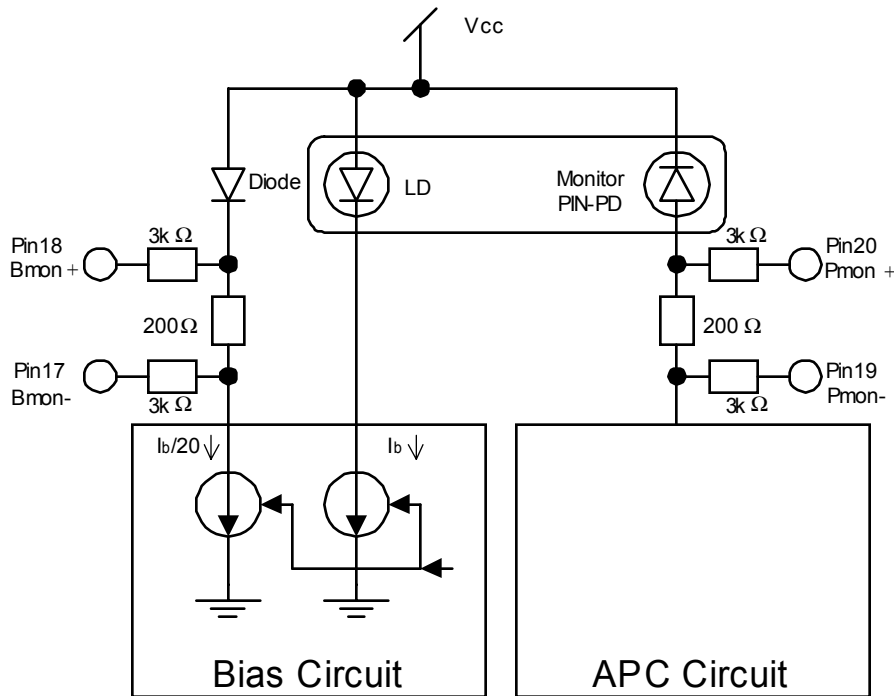

Figure 3. Bmon / Pmon Circuit Detail
2. Refer to figure 3 for details of Bmon and Pmon outputs.